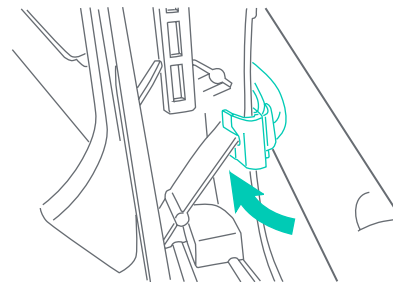

Fig. 20c
- Ensure that the slot of the anchor hook slides through the under side division (Fig. 20c).